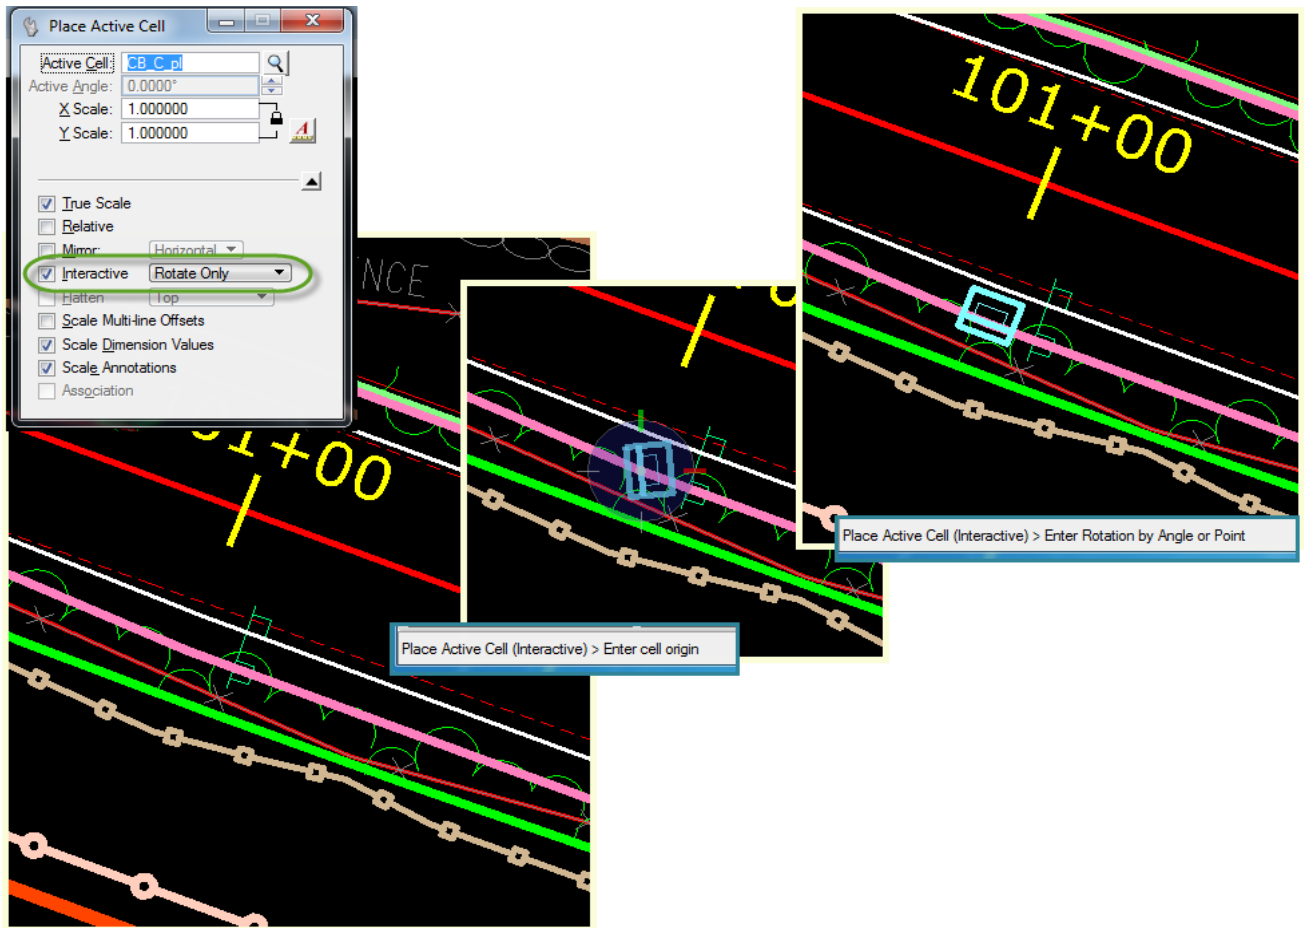

Figure 33 - Type "C" CB task
4. Repeat with other catch basin cells and drainage structures. See Figure 33 - Type "C" CB task.